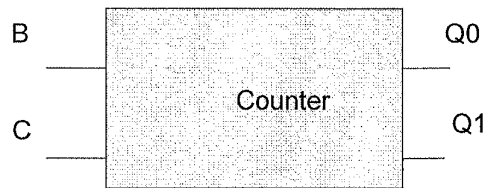

Figure 3:2 bit synchronous counter
Two (02) bit synchronous counter circuit is depicted in Figure 3. B and C are inputs, and Q0 and Q1 are counter outputs. The respective counter is designed using D-flip flops. The counter operation defines with the $D0=(Q0\oplus C)$, $D1=[(Q1\oplus Q0)\oplus D]C+Q1\bar{C}$ next state functions. The D0 and D1 are inputs of the two D-flip flops in the counter circuit.
- (i) Draw a state transition table of the D0 and D1 functions of the Figure 3 counter circuit. [5 marks]